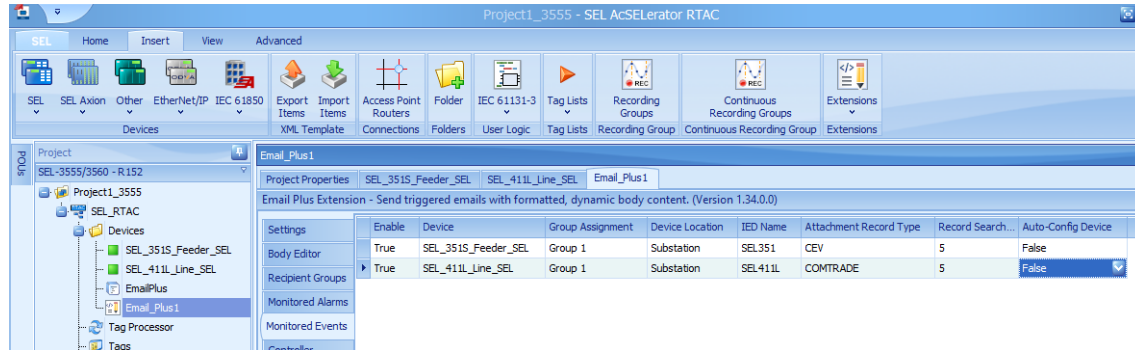

**Figure 8 Digital Fault Recorder Extension Generated Content**
- ▶ Organization of all project content into a managed Digital Fault Recorder folder (see *Figure 8*)